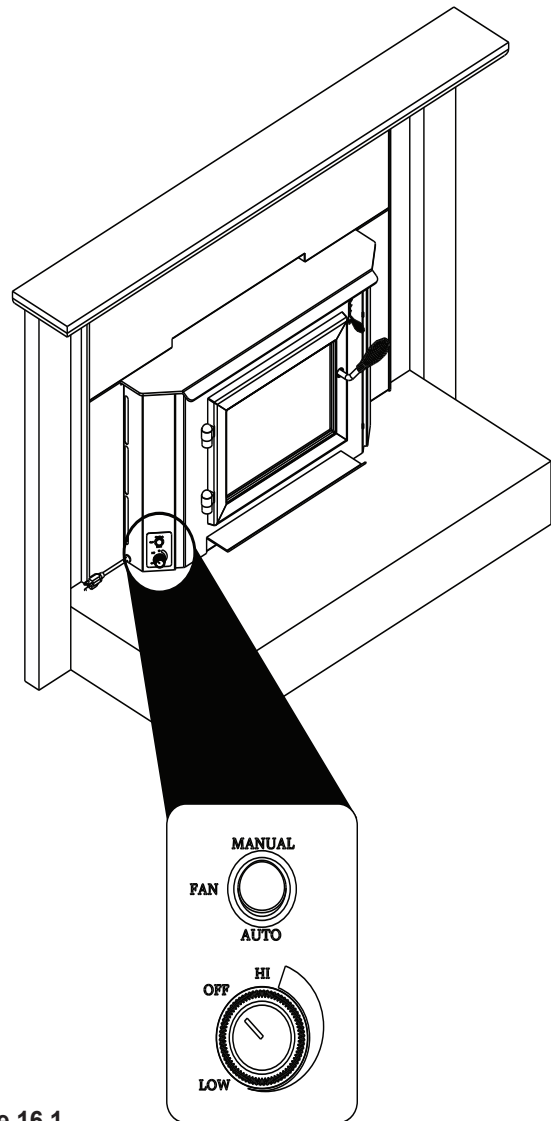

Figure 16.1
1. The blower will turn on/off automatically when set to AUTO (**Figure 16.1**).